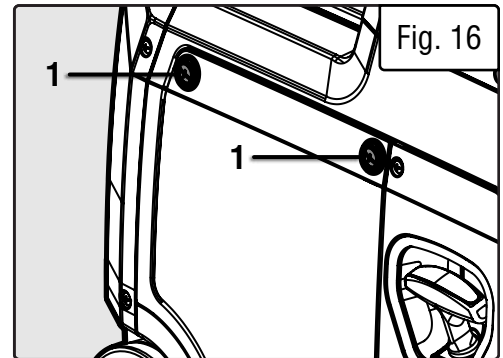
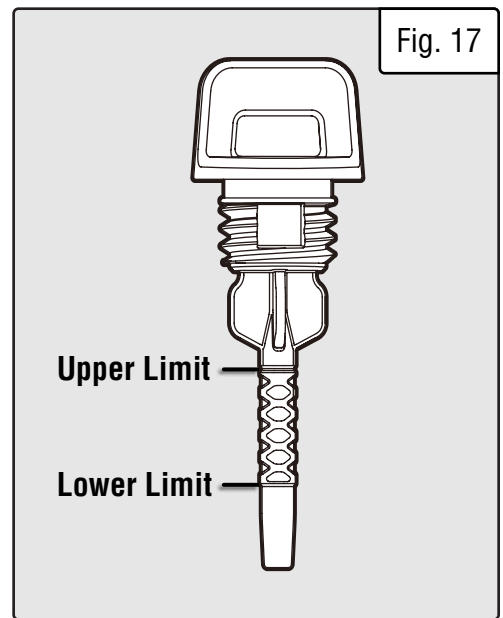

Fig. 16
Fig. 17
2. Open the side panel (to the right of the control panel) by twisting the side panel access knobs (Fig. 16 - 1). Remove and wipe the oil dipstick (Fig. 17) with a clean rag. Insert the dipstick into the oil fill opening without screwing it in.